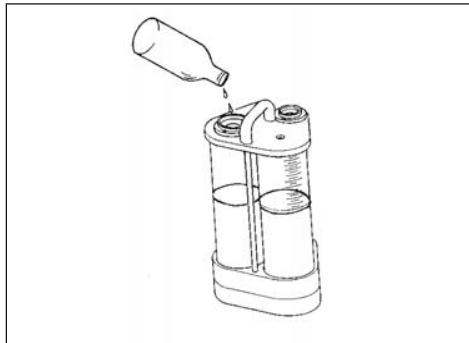

FIGURE 5-18
2. Fill the spirometry tester half full with room temperature water (see FIGURE 5-18).